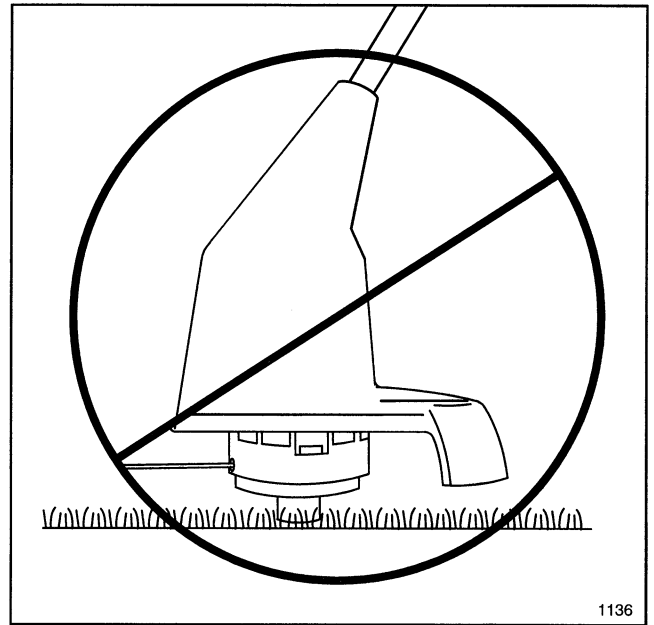

Figure 9
8. Never drag the trimmer spool on the ground while trimming (Fig. 9). This causes motor overload and spool wear.